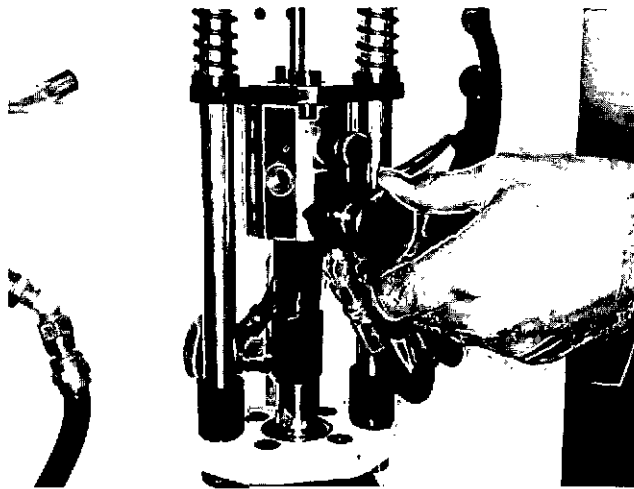

Fig. 4-43, (F60128). Attach the test oil inlet connector
9. The test oil is delivered to the injector through the inlet connector, Fig. 4-43. Test oil pressure here is controlled at this point by a connecting line and a pressure regulator.